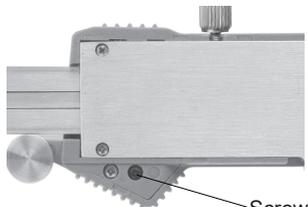

fig.1
---Loosen screw and remove the battery cover (fig.1)